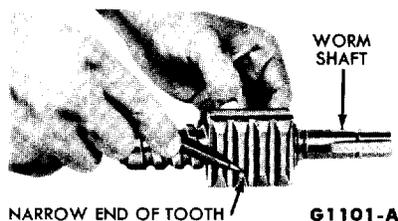

FIG. 15—Ball Nut Position
6. Remove the ball nut guide retainer and the ball guides. Turn the nut over and remove the balls by rotating the worm shaft from side to side. Catch the balls in a clean pan or a clean cloth. Remove the ball nut from the worm shaft. **Note the position of the ball nut on the worm shaft (Fig. 15).**
10. Slide the ball nut over the worm. See Fig. 15 for correct position. Align the ball return guide holes with the worm groove. Count 31 balls (one half the total number of balls) into a suitable container. This is the number of balls required to fill one circuit. Drop these balls into both guide holes of one circuit, while alter-